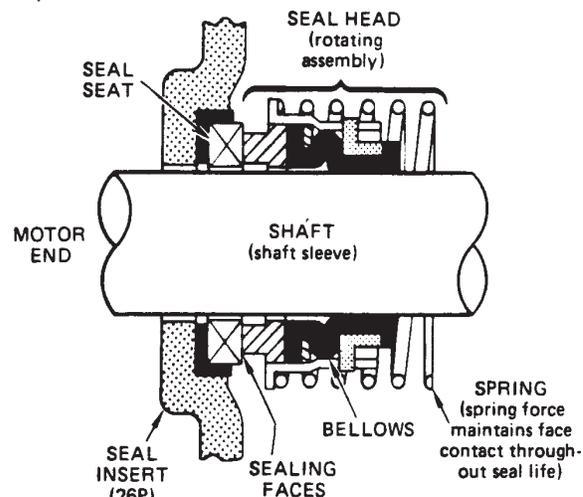

FIGURE 3a: End Face Mechanical Seal
- Figure 3a (below) identifies major seal components, and illustrates how an end face mechanical seal functions when properly installed inside pump casing.